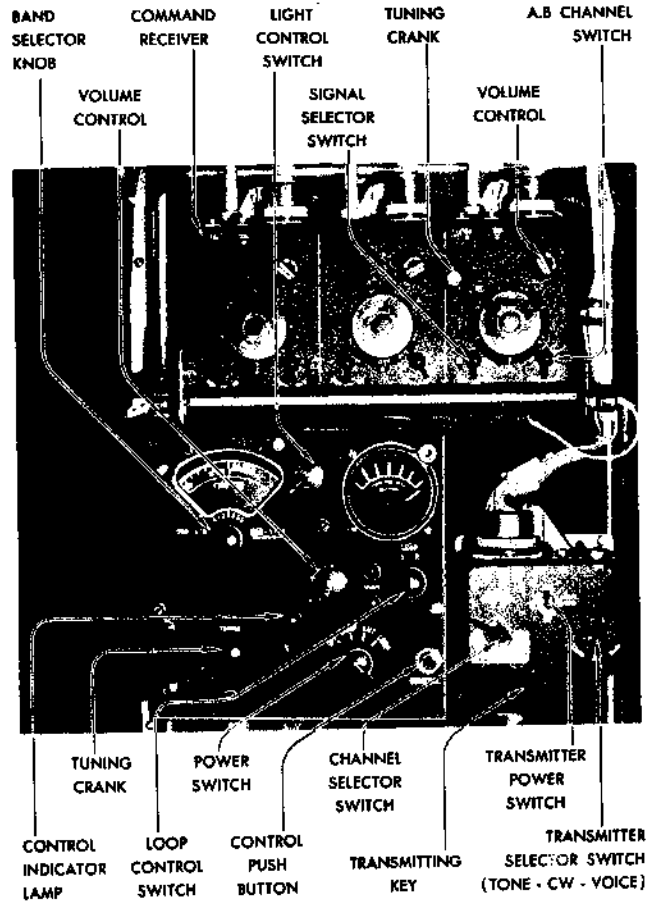

Figure 28—Radio Controls Pilot's Compartment Ceiling
(a) RECEIVING.—The interphone jack box (figure 23) switch must first be placed in the "COMMAND" position. The receiver control box (figure 28) is divided into three sections, each controlling the particular receiver to which it is connected. Reception of a signal of a specific frequency as indicated on the dial is accomplished by the use of the section of the receiver control box which controls the particular receiver involved. The desired receiver is turned on and off by a switch in the left forward corner of the control box section used. This switch, in addition to having an "OFF" position, has two selective positions marked "CW" and "MCW", which indicate the type of signal which is to be received. The "A-B" switch should be left in the "A" position at all times and need not be turned off when the receivers are turned off.
2. Throw the "OFF-ON" switch (figure 28) on the transmitter control box to the "ON" position. Select type of transmission desired with switch marked "TONE-CW-VOICE". With the switch in the "VOICE" position, the microphone from any interphone jack box switched to "COMMAND" position will be operative and voice will be transmitted when the push-to-talk button on the control wheel is pressed. With the switch turned to the "CW" position, a continuous wave, or